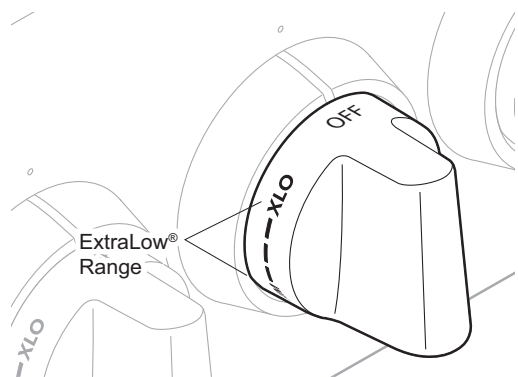

Figure 5: ExtraLow STAR Burner Control Knob
*Figure 5* shows that the control knob has an additional range between the SIM and XLO settings. When the knob is set within this range, the flame cycles off and on. By varying the length of time the flame is off and on, the heat is reduced even further to cook delicate foods. For example, these very low settings are suitable for simmering and poaching, melting chocolate and butter, holding cooked foods at temperatures without scorching or burning, etc.